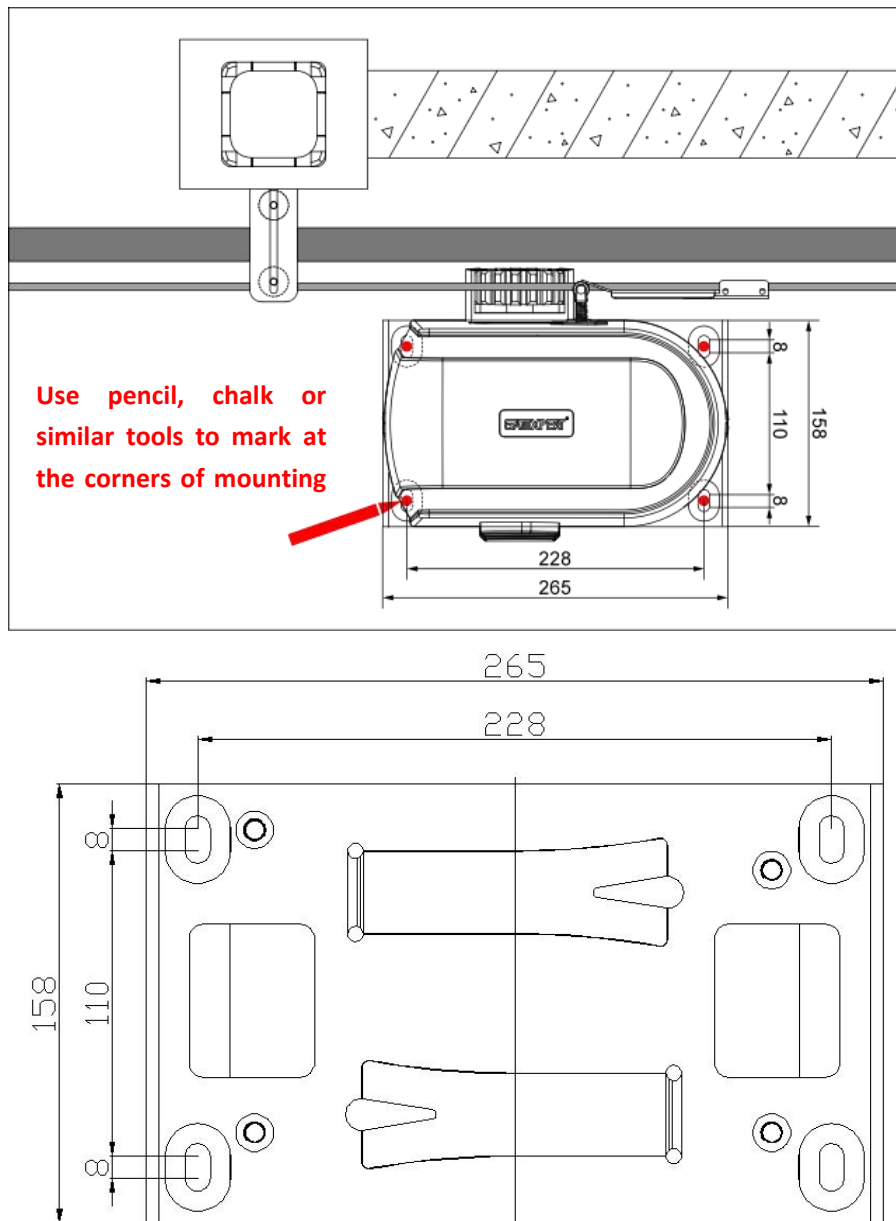

Figure 8
- Put the mounting base plate into a suitable position (The center line of rack and drive gear should be roughly on a line, as in Figure 8.), mark it well; use a 12mm concrete drill bit to make holes and tap the M8 expansion bolts into the punched holes, with the top exposed for about 2cm. (Customers can provide their own M8 ground screws instead of expansion bolts for pre-burial to the concrete foundation.)